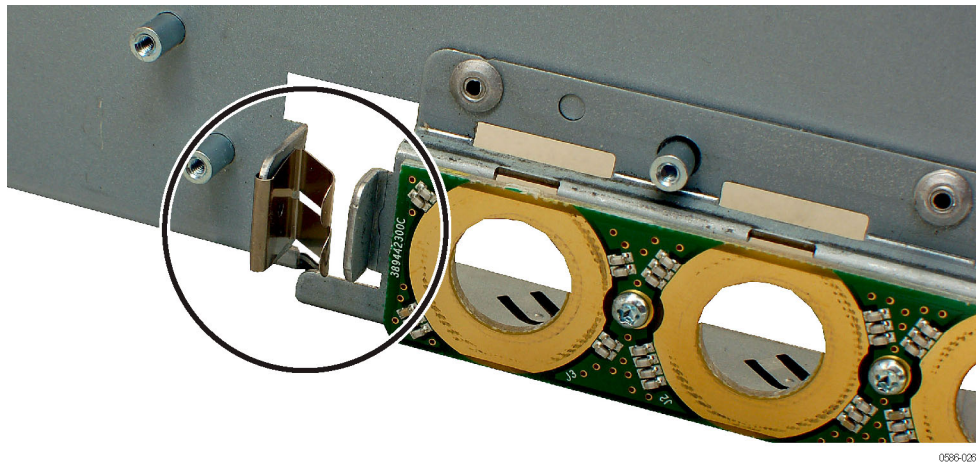

Figure 17: Correct position of the EMI clip for the USB port
- Check that the EMI clip for the USB port is correctly installed. (See Figure 17.)